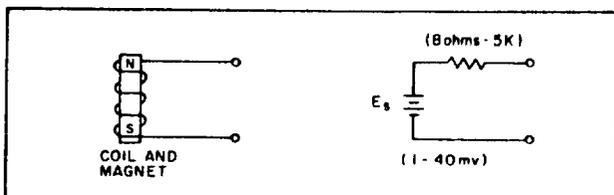

Figure 5-4. Velocity Pickup
- E. VELOCITY PICKUPS OR VIBRATION PICKUPS.** Figure 5-4 illustrates a typical velocity pickup. These pickups are composed of a magnetic coil of wire, similar to a permanent magnet loud speaker. Motion of the coil, relative to the magnet, results in generation of an output current. Either the coil or magnet may be fixed to the vibrating object, allowing the other member to vibrate at the frequency and amplitude of the test sample. E_o increases both with an increased distance of coil motion, or in frequency. Doubling the frequency with a constant motion results in a doubled output.